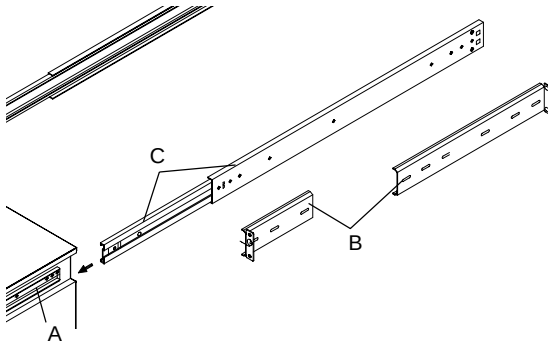

Figure 2-1. Identifying the Sections of the Rack Rails
You should have received two rack rail assemblies with the SuperServer 8060. Each of these assemblies consist of three sections: an inner fixed chassis rail that secures to the 8060 (A), an outer fixed rack rail that secures directly to the rack itself (B), and a sliding rail guide (C) between the two, which should remain attached to the fixed rack rail. (See Figure 2-1, which shows the chassis rail 'A' already attached to the chassis).